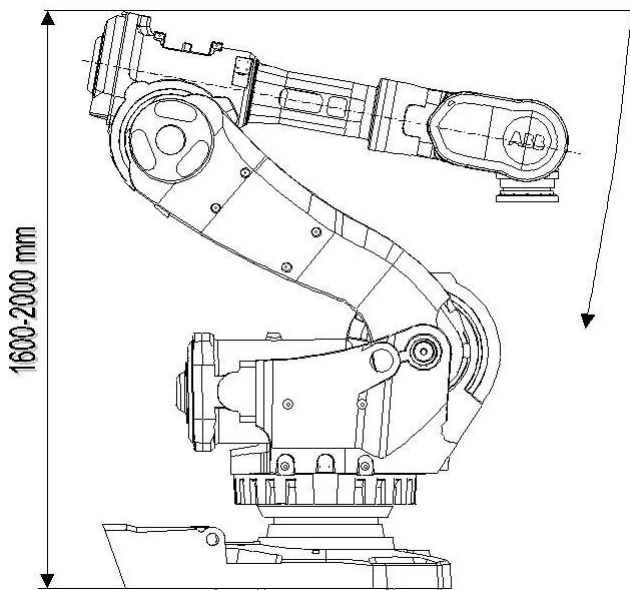

Figure 5. Approved lifting position - IRB 6600, 6640 & 6650.
- The robot's upper arm should be positioned so that its incline and height measurement, as set out in figures 5 to 6, are met. Accordingly, the upper arm should be directed downwards or horizontal.